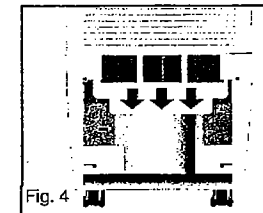

Fig. 4
- Pull the filter handle (downward) in the direction of the arrows. See fig.4